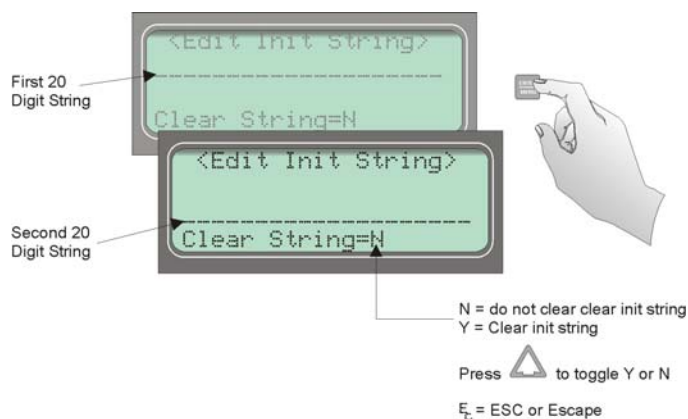

Figure 5-7 Initialization String Display
1. At the Clear String field, press  until the desired option flashes (Figure 5-7).